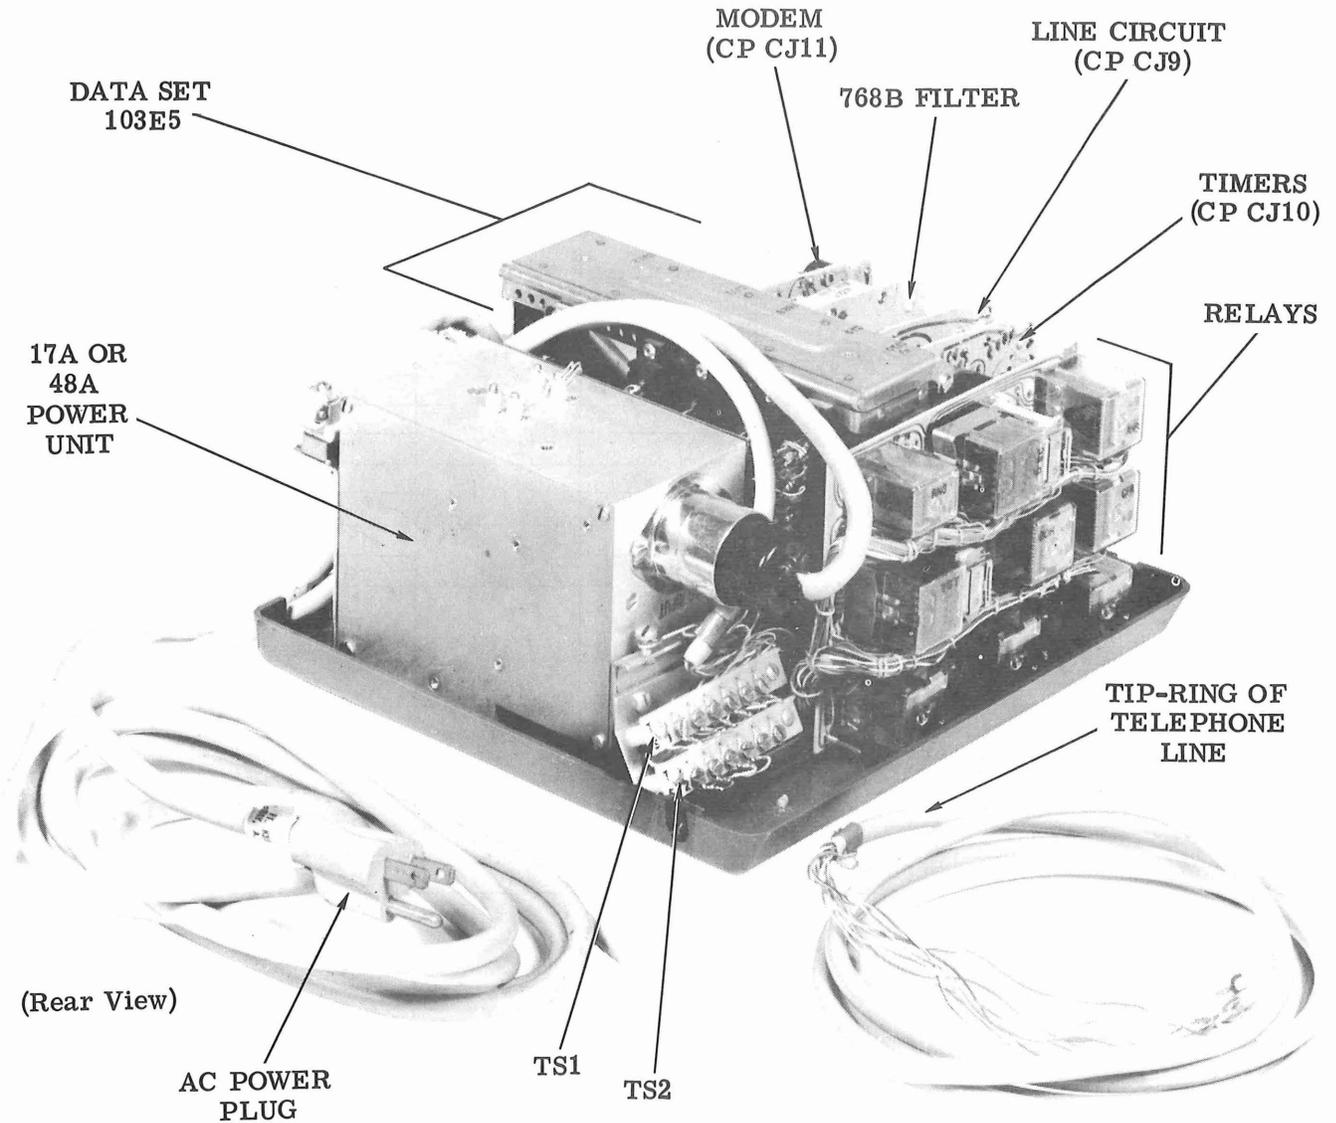

Figure 9 - Data Set 103H1 (Cover Removed)
2.09 Verify that the proper options are installed in Data Set 103H1 (Figure 9). Required options for the installation should be specified on the service order and/or work sheet. The available features or options for Data Set 103H1 are shown in Table E.
- (7) Set the function switch of KS-14510 L1 volt-ohm-millimeter (VOM) or equivalent VOM to 3 volts ac.
- (8) Connect the VOM test leads between terminals 10 and 13 on CP CJ9 of the data set (Figure 9).
- (14) Operate TEST key. Hold DATA key operated, release TEST key, and then release DATA key.
- (15) Using a screwdriver, adjust R34 on CP CJ11 (Figure 9) for the f_2 RMS voltage reading associated with the 1000 Hz measured loss value in (3).
- (16) At completion of R34 adjustment, operate CLEAR/TALK key.
- (17) Remove test leads from CP CJ9 and operate circuit breaker (CB101) to the OFF position.